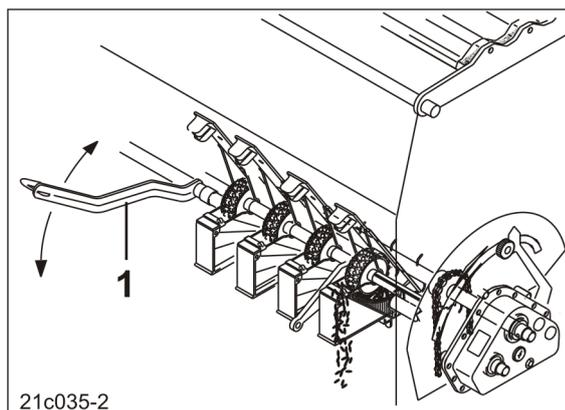

Fig. 152
8. While filling the seed hopper, set the bottom flap lever (Fig. 152/1) to a position between 1 and 4.